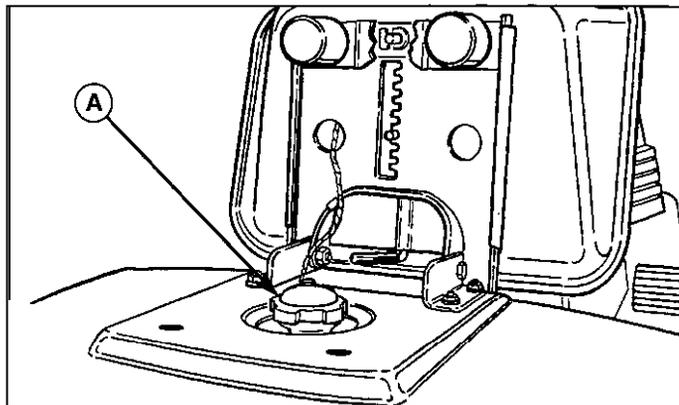

Figure 15. Fuel Tank Fill
1. Remove the fuel cap (see A, Figure 15).